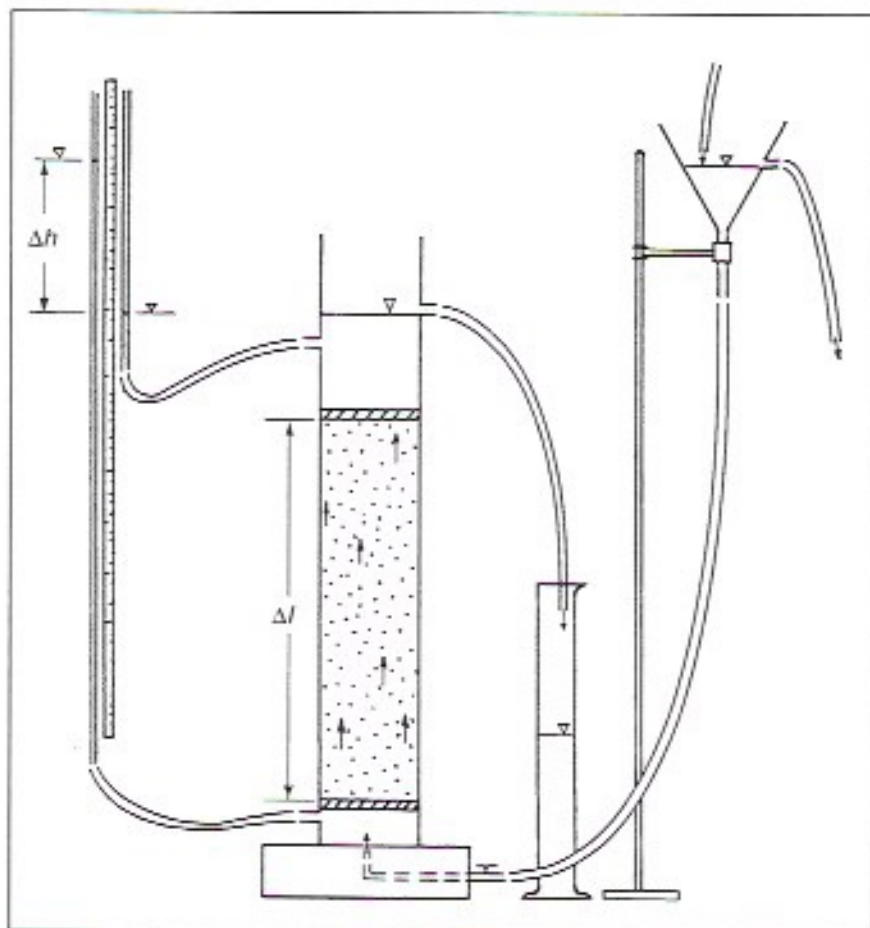

Figure 7.1—Constant-head permeameter.
3. Refer to Figure 7.1, which shows the basic arrangement for a constant-head permeameter. Permeameter designs vary somewhat, so your apparatus may look slightly different, but the operation will be the same.